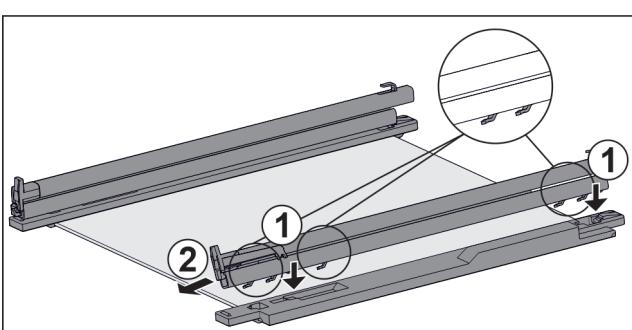

Fig. 137 Glass shelf with rails and retaining parts
- Place rail hooks onto the openings of the **left** retaining part. *Fig. 137 (1)*
- Push rail forwards. *Fig. 137 (2)*
- Place rail hooks onto the openings of the **right** retaining part. *Fig. 137 (1)*